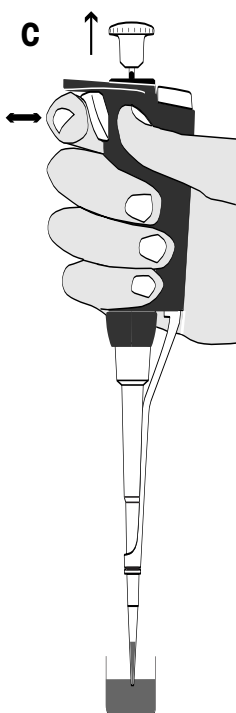

Figure 3 Operating Pipet-Plus
3. Press the plunger button fully — to the blowout position — and release your thumb. (A & B in Figure 3). The piston returns to the zero point and latches automatically, ready to pick up the volume displayed on the volume indicator.
4. Holding Pipet-Plus vertically, place the tip into the sample. Press and release the trigger to aspirate the sample (C). Do not hold the plunger during aspiration; the Aspiration Rate Controller controls pickup speed.